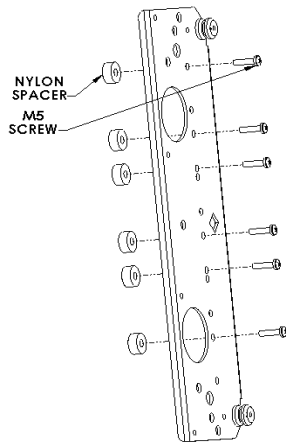
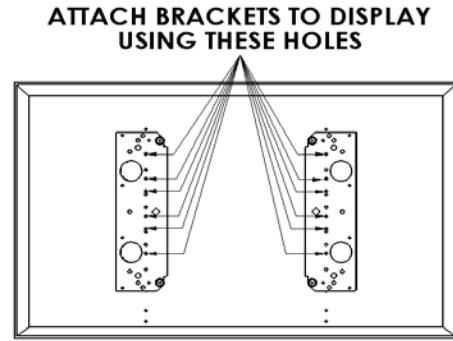

Figure 4
Figure 5
3. Place Nylon spacers on mounting holes and align hole pattern on brackets with pattern on back of display (see Figure 4 & Figure 5). Attach bracket using the M5 screws.